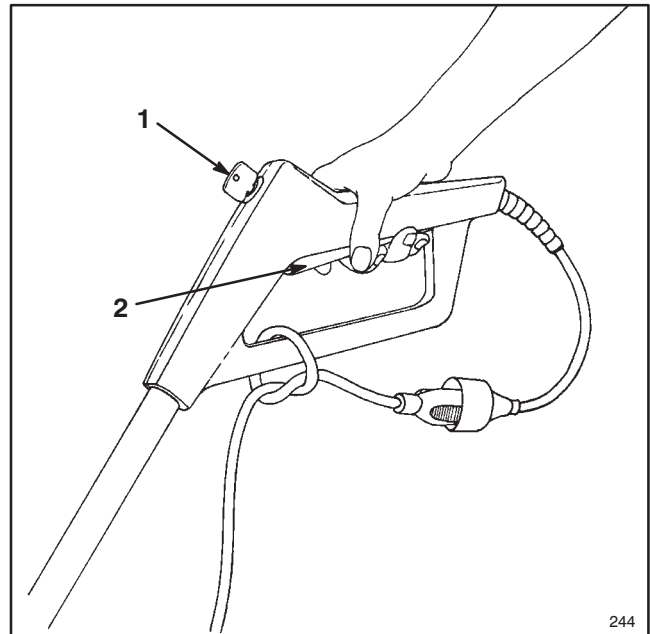

Figure 7
- To prevent the *Power Shovel* cord from disconnecting from the extension cord during operation, tie the extension cord to the lower handle before connecting to the *Power Shovel* cord; refer to Figure 7.
1. Tie the extension cord to the lower handle of the control grip (Fig. 7) before connecting it to the *Power Shovel* cord. This helps prevent the cords from separating during operation.
2. Plug the extension cord into a wall outlet and insert the key into the hole located on the front side of the control grip (Fig. 7).
To start the *Power Shovel*, install the key and squeeze the switch bar. To stop, release the switch bar (Fig. 7).